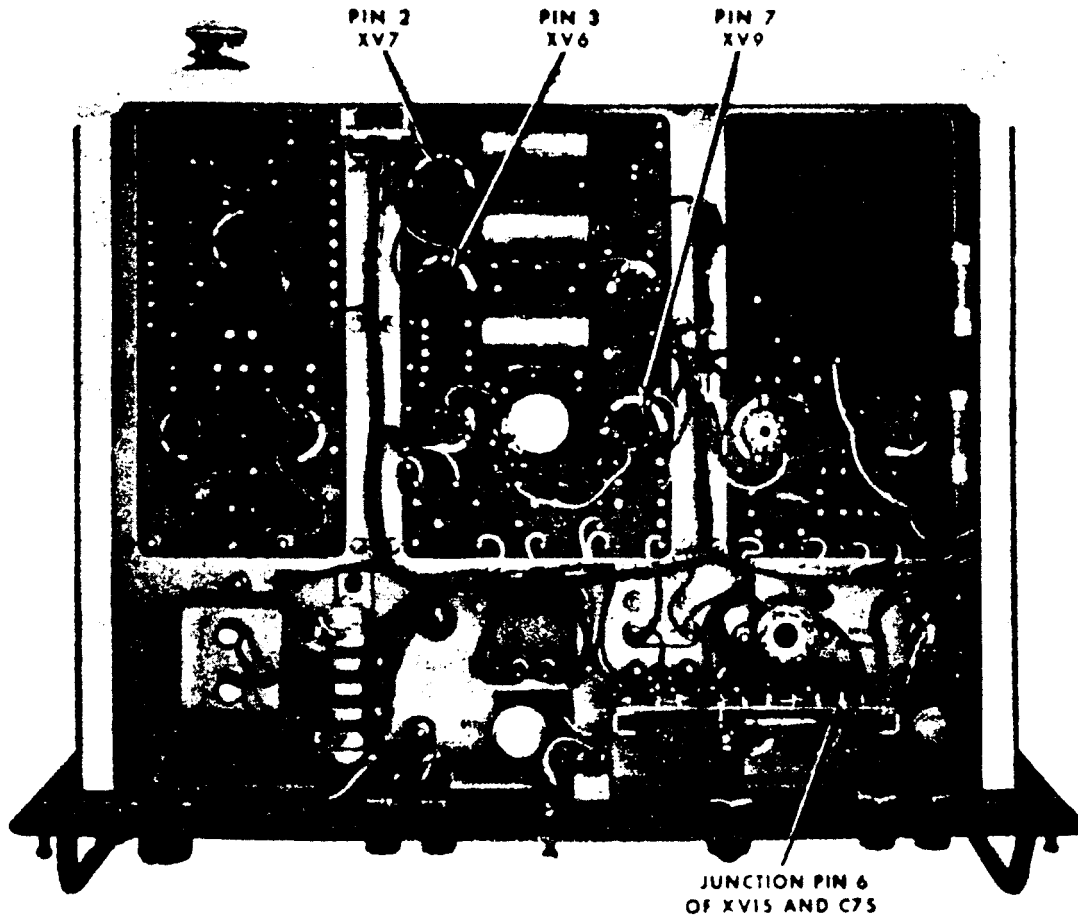
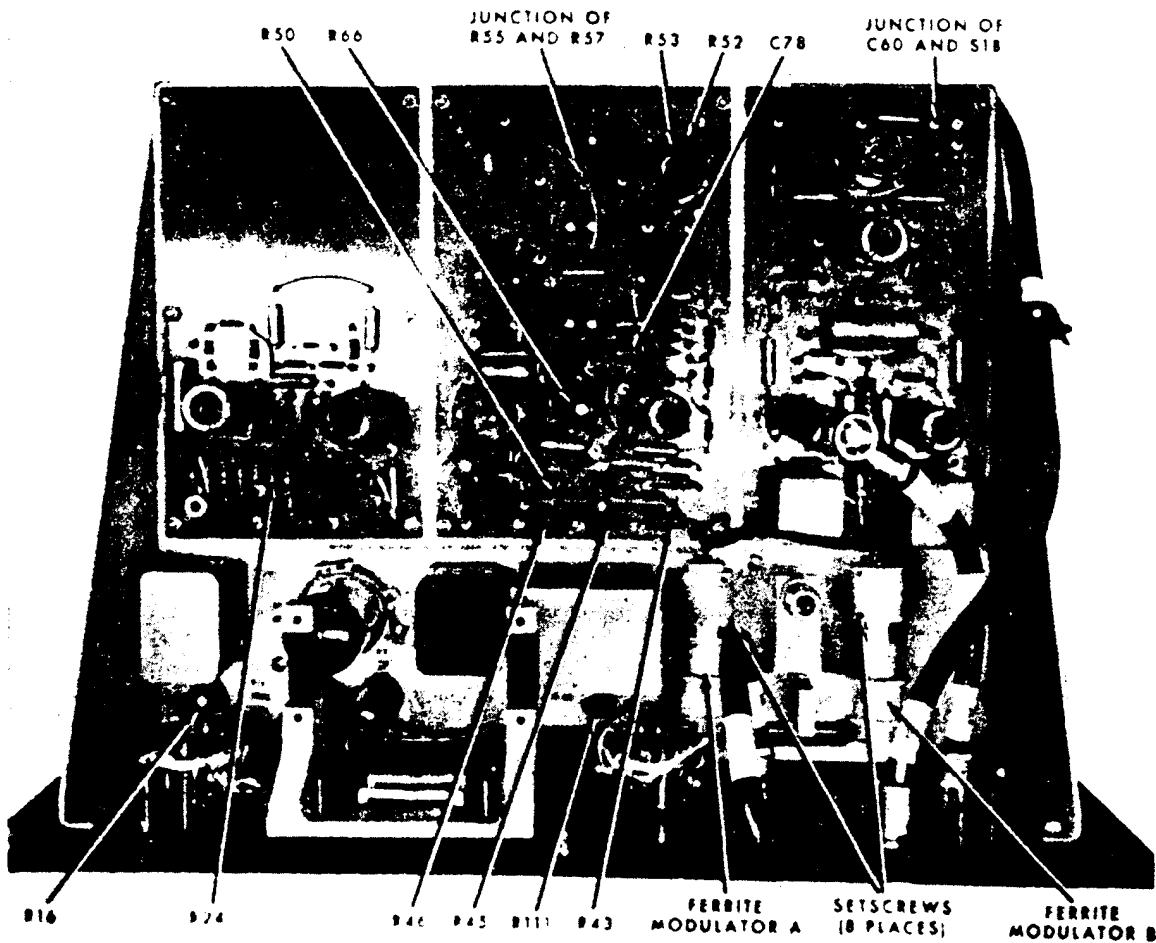

Figure 3. Radar target simulator - bottom view.
Figure 4. Radar target simulator - top view.
- (1) Remove the test instrument from its protective case.
- (2) Turn SIGNAL SELECTOR switch to OFF.
- (3) Connect cable assembly B10 to the junction of capacitor C75 and pin 6 of XV15 (fig. 3) and ground.
- (4) Set variable power transformer on/off switch to on, and allow 15 minutes for the equipment to warm-up and stabilize.
- (5) Voltmeter No. 2 should indicate from 245 to 255 vdc. Record the indication.
(1) Adjust the variable power transformer for 115 vac.
(2) Adjust R111 (fig. 4) for a 250 vdc indication on Voltmeter No. 2.
(3) Repeat steps a(5) through (7) above.
- (2) Turn REP RATE control on the test instrument fully clockwise.
- (3) Connect cable assembly B10 between INPUT of oscilloscope and pin 2 of XV7 (fig. 3) and ground.
- (4) The oscilloscope should indicate between 42 and 52 volts peak-to-peak.
(1) Turn REP RATE control fully clockwise. Replace resistor R53 (fig. 4) with decade resistor B11 and adjust it for an indication of 50,000 usec on the frequency time measuring system.
(2) Replace resistor R53 with a fixed resistor whose resistance is equal to or closest to that which is indicated on the decade resistor.
(3) Turn REP RATE control fully counterclockwise and replace resistor R52 (fig. 4) with the decade resistor and adjust it for an indication of 1,000,000 usec on the frequency/time measuring system. (R52 may not be present in every unit.)
(4) Replace decade resistor R52 with a fixed resistor whose resistance is equal to or closest to that which is indicated on the decade resistor.
(5) Repeat steps a(1) through (5) above.
(1) Connect the input of the frequency/time measuring system to the junction of C60 and switch S1-B (fig. 4) and ground, using cable assembly B9.
(2) Turn SIGNAL SELECTOR switch on the test instrument to SIGNAL.
(3) Using cable assembly B5 and adapter B3 short pin 7 of XV9 (fig. 3) to ground.
(4) The frequency/time measuring system should indicate a frequency code of  $F + 3$  kHz  $\pm 50$  Hz.
(5) Disconnect cable assembly B9 from the SIGNAL INPUT jack of the frequency/time measuring system, and connect it to the adapter at INPUT of voltmeter No. 1. The voltmeter should indicate between 4.5 to 5.5 vrms. Record the indication.
(6) Turn the SIGNAL SELECTOR switch on the test instrument to S/N-10 B. The voltmeter should indicate 9 to 11 db less than the indication obtained in step (5) above.
(7) Turn the SIGNAL SELECTOR switch on the test instrument to S/N-20 DB. The voltmeter should indicate 19 to 21 db less than the indication obtained in step (5) above.
(1) Adjust variable resistor R16 (fig. 4) for an indication of frequency code F + 3 kHz on the frequency/time measuring system. Adjust C340 (in Z2) if R16 has insufficient range.
(2) Replace resistor R24 (fig. 4) with the decade resistor, and adjust for indication of 5 vrms on Voltmeter No. 1.
(3) Replace the decade resistor with a resistor of the closest value, and repeat steps a(5) through (7) above.
(1) Disconnect cable assembly B9 from Voltmeter No. 1 and connect it to the frequency/time measuring system.
(2) Remove the short from pin 7 of XV9 (fig. 3).
(3) Turn % DUTY CYCLE switch of the test instrument to 100.
(4) Turn SIGNAL SELECTOR switch of the test instrument to NOISE. The frequency/time measuring system should indicate code G minus  $10 \pm 2$  kHz.